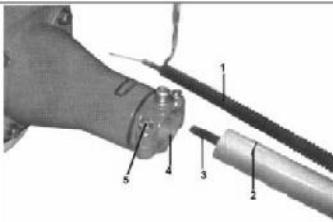

Fig.E2
4. Push the lower tube towards the tube clamp and rotate it by hand to check that the main shaft splines engage the powerhead, See Fig.E2
- Fig.E2